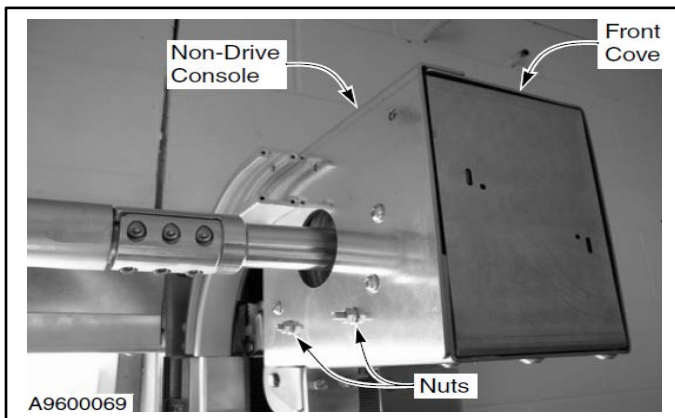

Figure 45
2. Loosen the two nuts on the side of the console. (See Figure 45.)